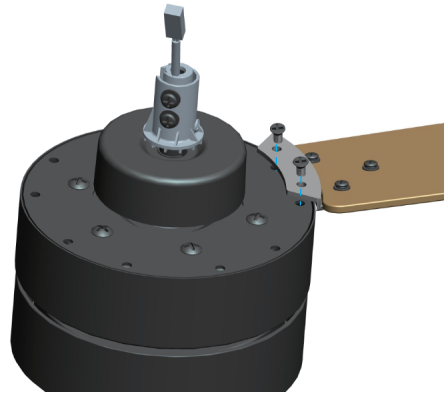

Fig 2.1
2.1 Fix each prepared blade bracket to the motor assembly with blade bracket screws as shown in Fig 2.1.